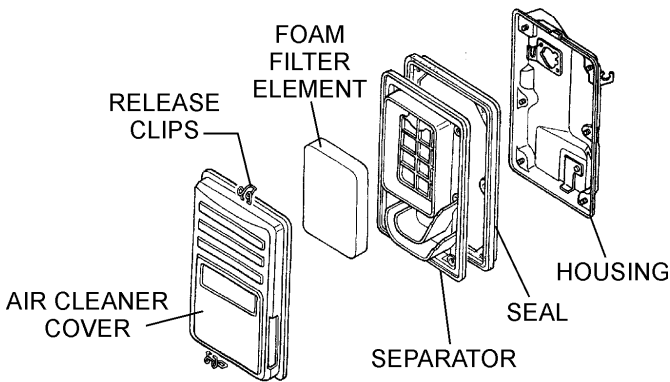

Figure 32. Engine Air Cleaner
1. Remove the air cleaner cover (Figure 32) and foam filter element as shown in .